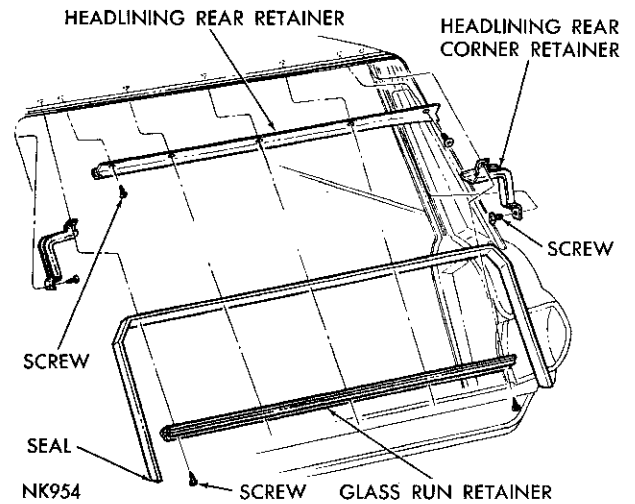

Fig. 117—Tail Gate Glass Upper Run Retainer and Seal
- (1) Remove the five screws attaching the glass run retainer to the roof rear header and remove the retainer (Fig. 117).
- (2) Remove the seal assembly from the roof rear header.
- (3) Remove the headlining rear corner retainer, if necessary.
- (4) Remove the roof headlining rear retainer from the roof panel rear header outer reinforcement, if necessary.